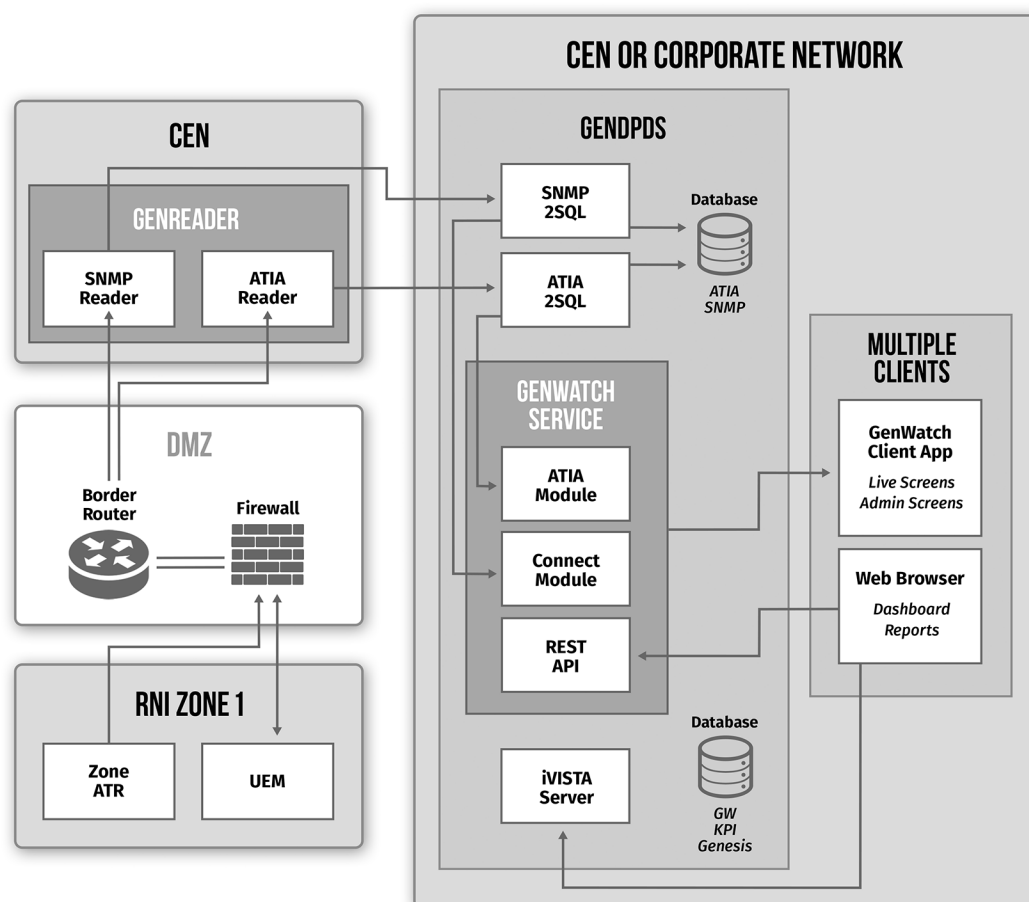

Figure 1: Basic Single Zone System Diagram with UEM
**Figure 1** shows what a basic single zone system diagram with GenWatch UEM would look like. The Motorola UEM port sends the SNMP traps, again through the NBI, to a GenWatch Reader (Reader). The Reader listens for that data via UDP and passes it to the GenWatch Data Processor (DP) as TCP/IP. The DP then takes the packets, parses them out, and sends them to the GenWatch Data Server (DS), which writes the information into SQL datatables. The DP also provides the data feed to the GenWatch Host (Host) for the desktop application Modules and iVISTA. All GenWatch Clients connect to the Host. If connection issues arise between the Reader and the DP, the Reader will buffer for about 30 days to avoid losing any data.